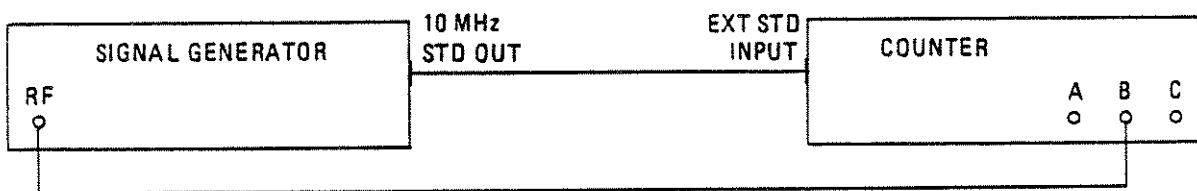

**Fig 6.5 Location of R150 and R193**
- (3) Turn on the RF output of the signal generator.
- (4) Increase the generator's output to 13 mV r.m.s.
- (5) Adjust R149 slowly clockwise until the display just becomes unstable. Turn R149 slowly counterclockwise until the display is just stable, showing  $100.000000 \text{ E } 6 \pm 0.000001 \text{ E } 6$ .
- (6) Reduce the generator's output to 7 mV r.m.s. Verify that the GATE LED stops flashing. If flashing continues, repeat steps 4 through 6.
- (7) Turn off the counter and disconnect the test equipment.
- 32 First, set resistors R150 fully counterclockwise and R193 to its midposition. R193 is located inside the screened module (access holes provided) as shown in Fig 6.5.